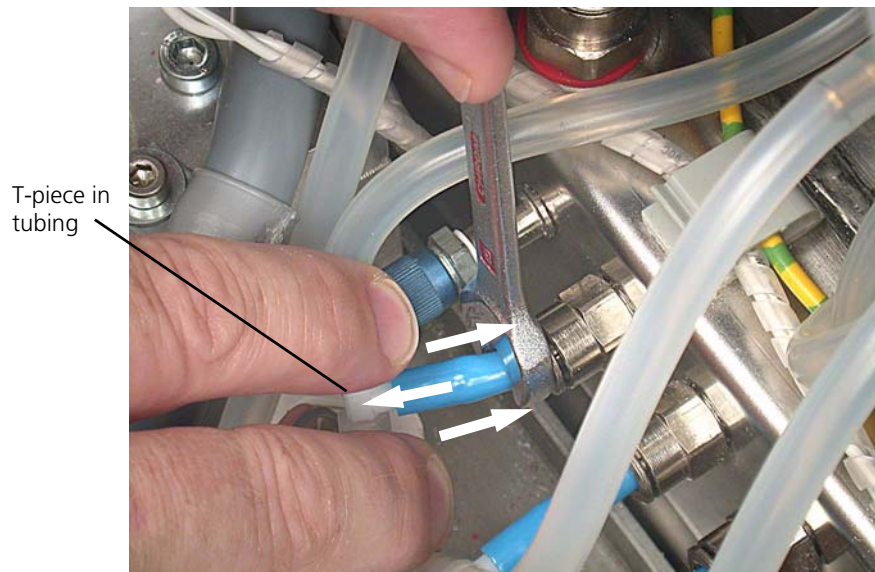

Figure 11-229. Removing the blue tube
3. Remove the blue tube from the flow restrictor. To do this, push down on the inner collar of the connector with a suitable spanner, while pulling off the blue tubing. (Figure 11-229.)